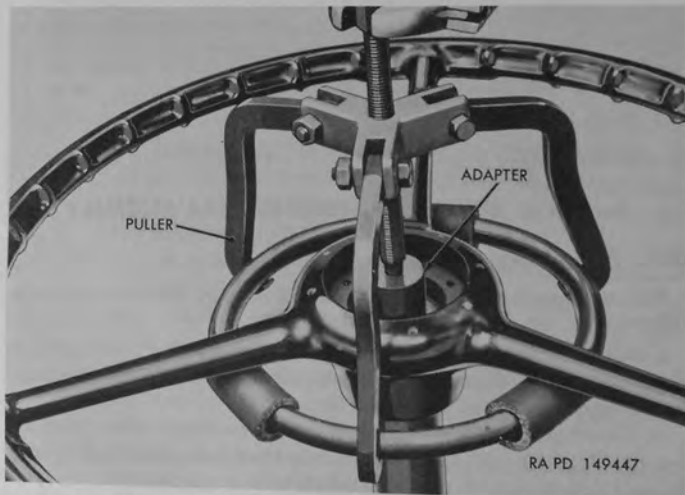

Figure 187. Removing steering wheel using adapter 41-A-27-430 with puller 41-P-2954.
- (2) Remove steering wheel nut (S).
- (3) Install adapter 41-A-27-430 with puller 41-P-2954 at steering wheel in manner shown in figure 187. Pull steering wheel from shaft.
- (4) Remove shaft bearing spring (Q) and shaft bearing spring seat (P).